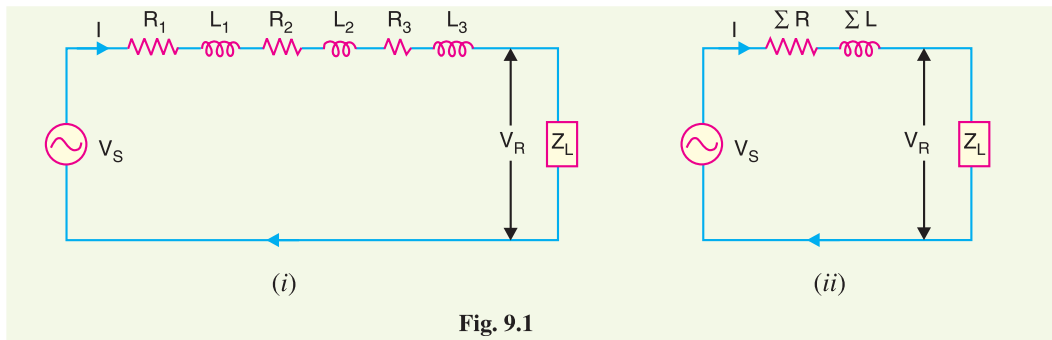

Fig. 9.1
- (i) **Resistance.** It is the opposition of line conductors to current flow. The resistance is distributed uniformly along the whole length of the line as shown in Fig. 9.1 (i). However, the performance of a transmission line can be analysed conveniently if distributed resistance is considered as lumped as shown in Fig. 9.1(ii).
The inductance is also uniformly distributed along the length of the \* line as shown in Fig. 9.1(i). Again for the convenience of analysis, it can be taken to be lumped as shown in Fig. 9.1(ii).